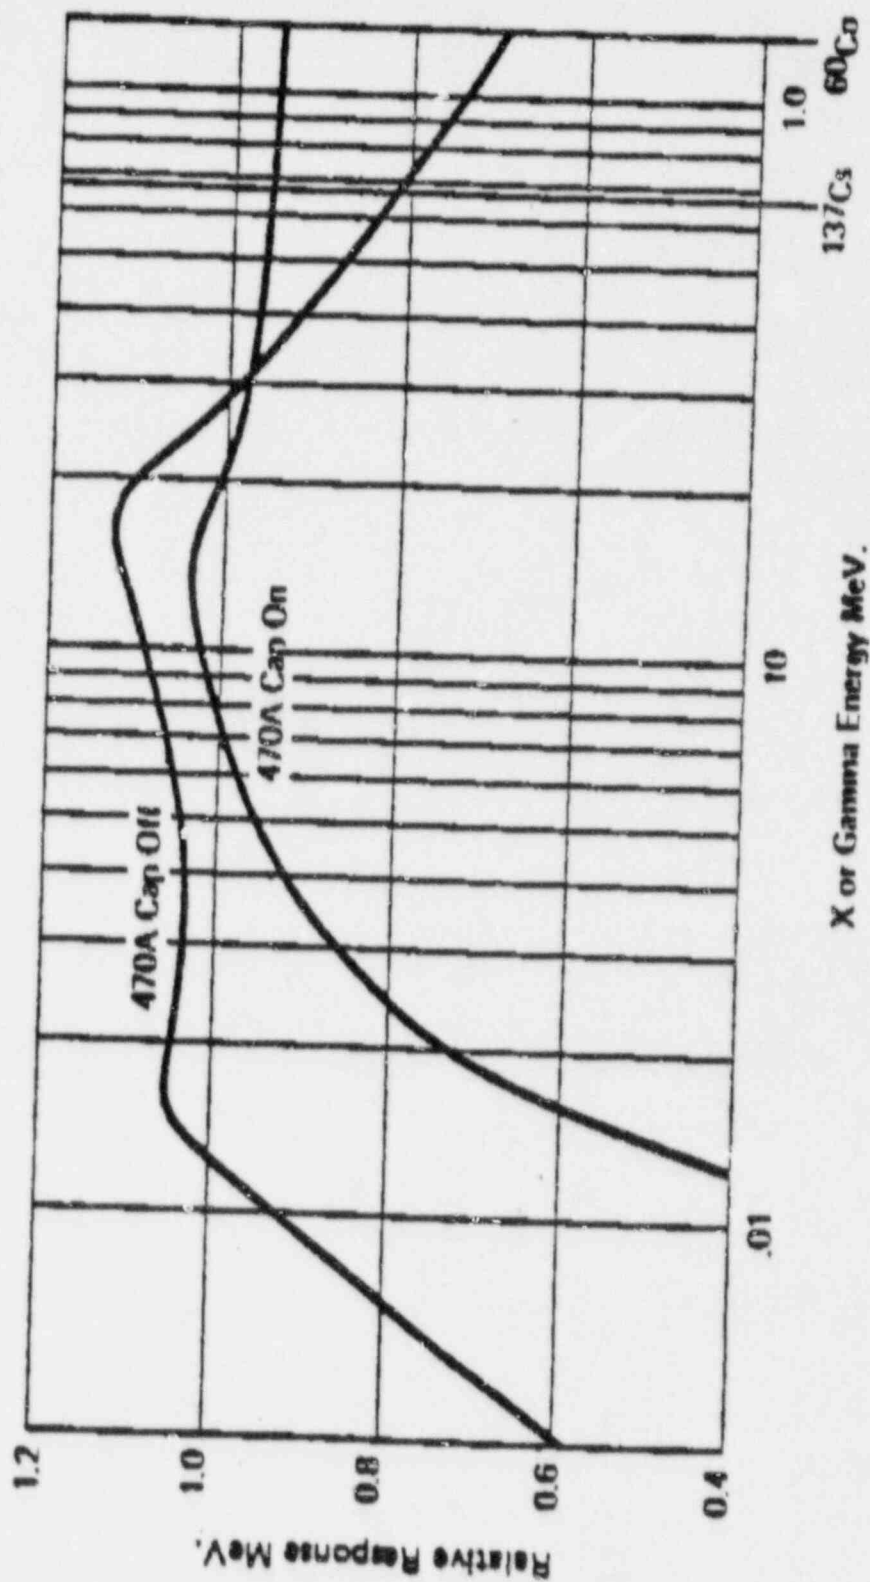

FIGURE 5. Energy Response Correction Curve
5.1.1 Energy Dependence - Any ion chamber has a certain energy dependence. That is, holding the exposure rate constant, the chamber responds differently to different energy photons. The Model 470A has been calibrated at an effective energy of 662 keV from  $^{137}\text{Cs}$ . The response is fairly energy dependent in the low-energy region. For accurate usage at middle and high energy regions, the Energy Response Correction Curve must be used. See Figure 5.